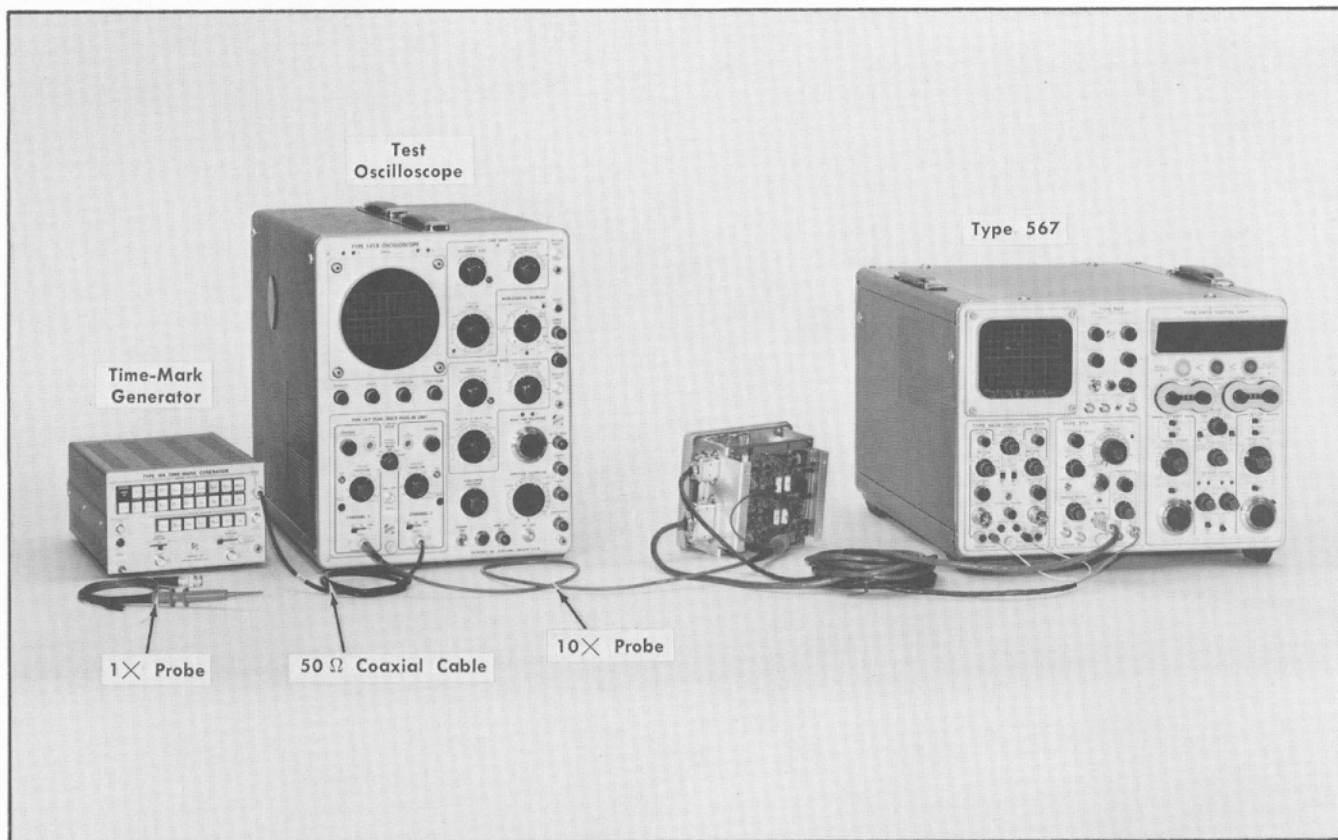
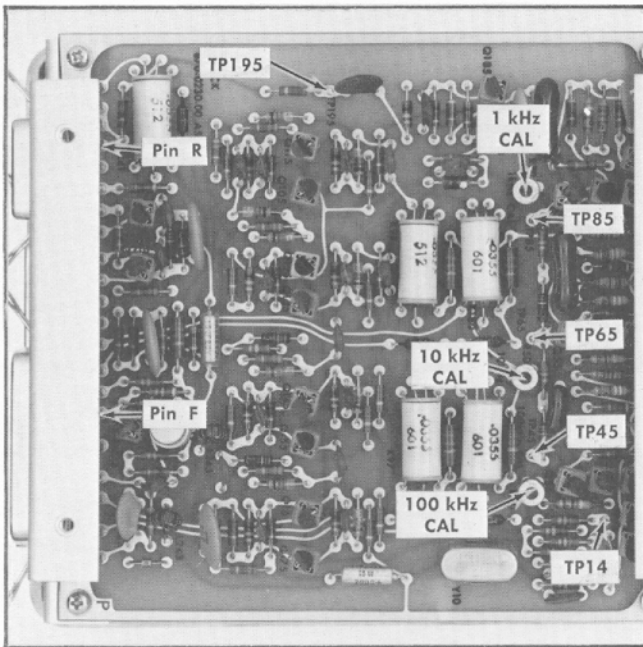

Fig. 5-2. Test equipment setup for steps 1 through 6.
Fig. 5-3. Location of Type 283 Test Points and Adjustments.
a. Use the setup shown in Fig. 5-2 and connect the 10X Probe to TP14, see Fig. 5-3.
①
a. Set the Test Oscilloscope Time/cm switch to $10 \mu\text{s}$, the vertical unit Mode switch to CH 1 and Volts/cm switch to .1 (1 volt/cm with the $10\times$ Probe). Connect the $10\times$ Probe to TP45, see Fig. 5-3.
a. Set the Test Oscilloscope Time/cm switch to .1 ms and connect the $10\times$ Probe to TP65, see Fig. 5-3.
a. Set the Test Oscilloscope Time/cm switch to 1 ms and connect the $10\times$ Probe to TP85, see Fig. 5-3.
- a. Connect the 10× Probe to TP195, see Fig. 5-3, and set the Test Oscilloscope Volts/cm switch to .2.
- a. Attach the 1× Probe to the Test Oscilloscope vertical input. Connect the 1× Probe ground clip to the Type 283 chassis and the Probe tip to Pin R, see Fig. 5-3.